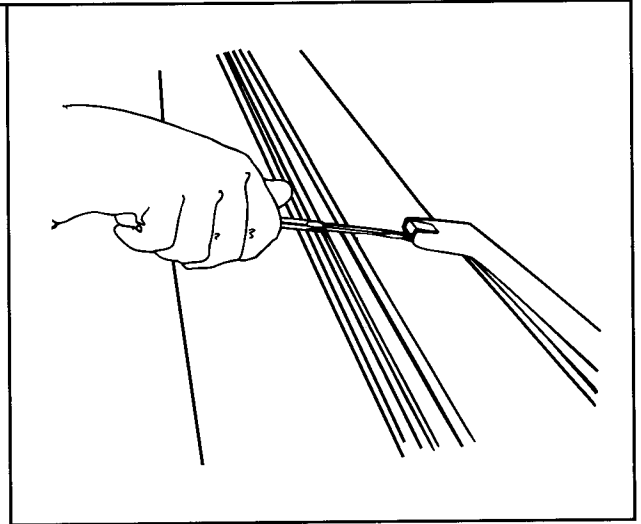

Figure 68
- a. Using a taped small flat blade screwdriver, pry back end of screw cap up. See Figure 68.